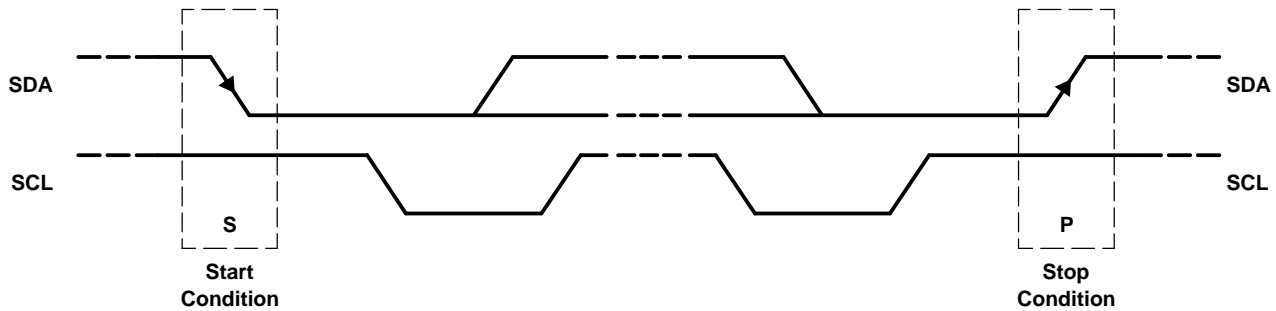

Figure 40. START and STOP Conditions
- The *Master* initiates data transfer by establishing a *Start* condition. The *Start* condition is defined when a high-to-low transition occurs on the SDA line while SCL is high, as shown in Figure 40. The byte following the start condition is the address byte consisting of the 7-bit slave address followed by the \overline{W} bit.